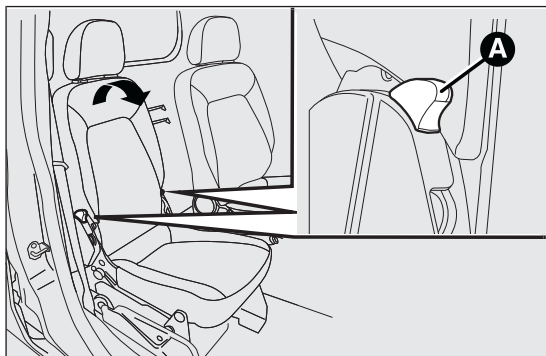

fig. 18
- ☐ pull lever A fig. 18 and fold the backrest forwards in the direction indicated by the arrow;